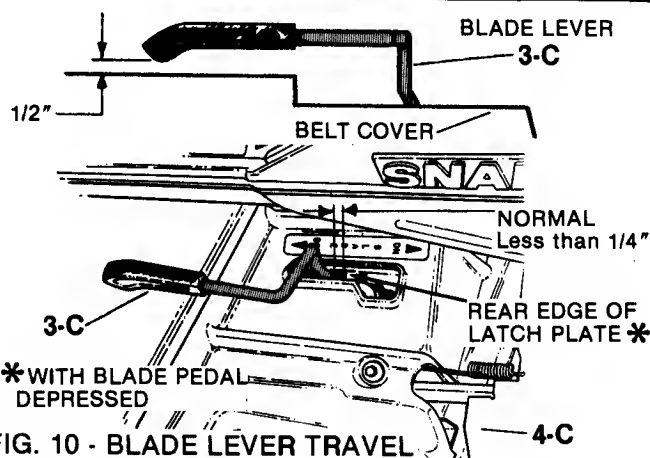

FIG. 10 - BLADE LEVER TRAVEL
STEP 3: Release the BLADE pedals to allow the BLADE lever to move to the OFF position. Then depress the BLADE pedals again and check the clearance between the forward edge of the BLADE lever and the rear edge of the latch plate. There should be less than 1/4" clearance (see FIG. 10). Repeat the procedure in step 2 if needed, to obtain the correct clearance. Reinstall the BELT COVER.